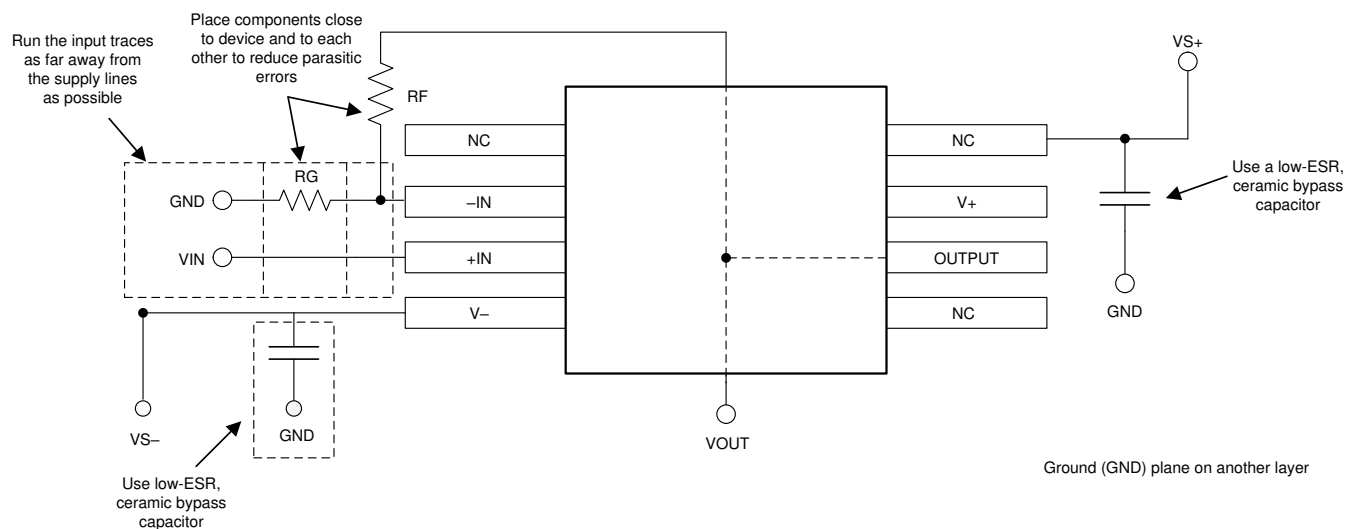

図 7-4. Operational Amplifier Board Layout for Noninverting Configuration
- Place the external components as close to the device as possible. As illustrated in 図 7-4, keeping RF and RG close to the inverting input minimizes parasitic capacitance.